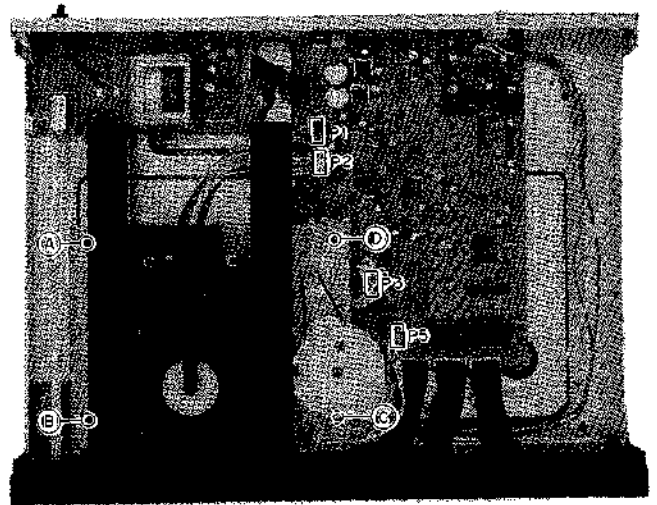

Fig. 5-2
- 3) Remove screws (A), (B), (C) and (D). (Refer to Fig. 5-2)